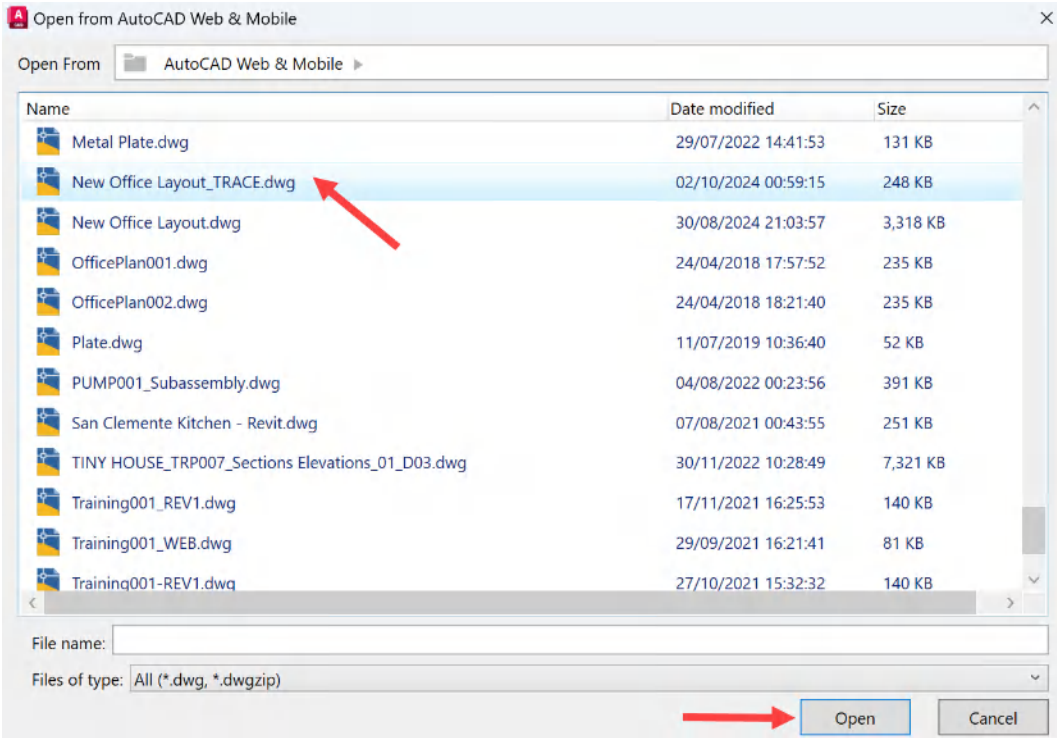

Figure 16.31: The Open from AutoCAD Web & Mobile dialog box
2. The **Open from AutoCAD Web & Mobile** dialog box will display. Select the **New Office Layout\_TRACE.dwg** file and open it, as shown in *Figure 16.31*. The drawing will open in AutoCAD.